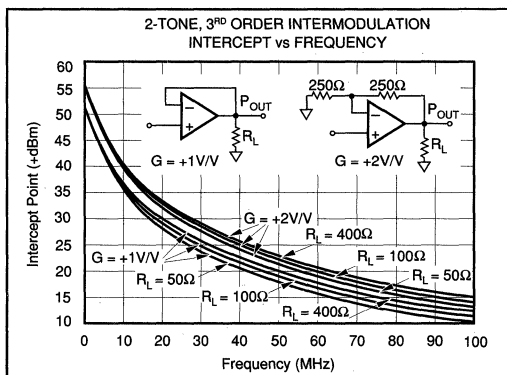

FIGURE 9. 2-Tone, 3rd Order Intermodulation Intercept vs Frequency.
Two-tone, third-order intermodulation distortion (IM) is an important parameter for many RF amplifier applications. Figure 9 shows the OPA620's two-tone, third-order IM intercept vs frequency. For these measurements, tones were spaced 1MHz apart. This curve is particularly useful for determining the magnitude of the third-order IM products as a function of frequency, load resistance, and gain. For example, assume that the application requires the OPA620 to operate in a gain of +2V/V and drive 2V_{p-p} into 50Ω at a frequency of 10MHz. Referring to Figure 9 we find that the intercept point is +40dBm. The magnitude of the third-order IM products can now be easily calculated from the expression: